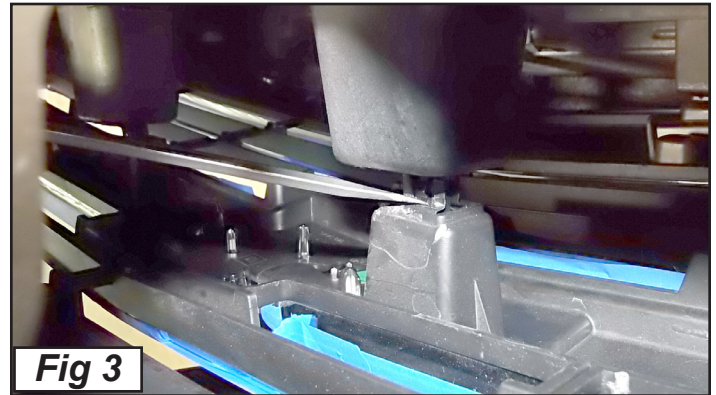

Fig 3
Gently lift the top of grille assembly up while pulling back at the same time. Depress the four (4) release tabs located on the inside of the factory grille assembly with your flat head screwdriver. Firmly grasp the grille pulling away from the vehicle to remove it. (Fig 3)